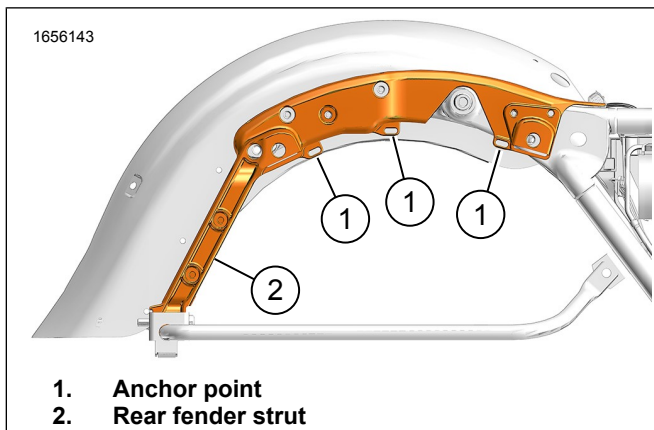

Figure 16. Rear Fender Strut
14. See Figure 16. Route and secure harnesses with cable straps.